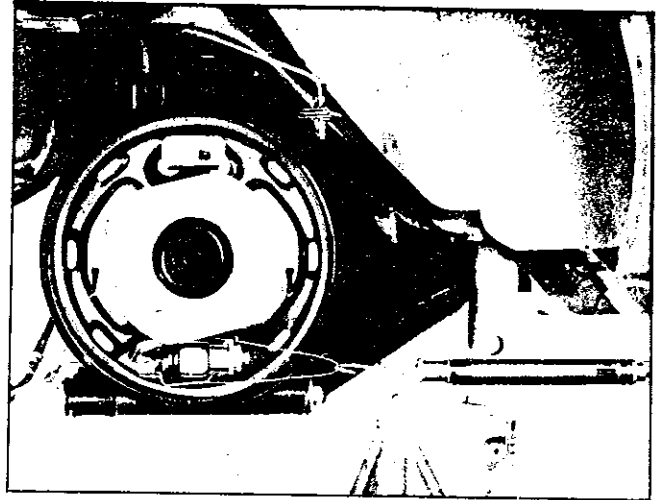

Fig. BR-32 Measuring sliding resistance.
3. Measure the wheel cylinder sliding resistance without installing the brake tube as shown in Figure BR-32, and make sure that the sliding resistance is in range from 2 to 7 kg (4.409 to 15.432 lb).